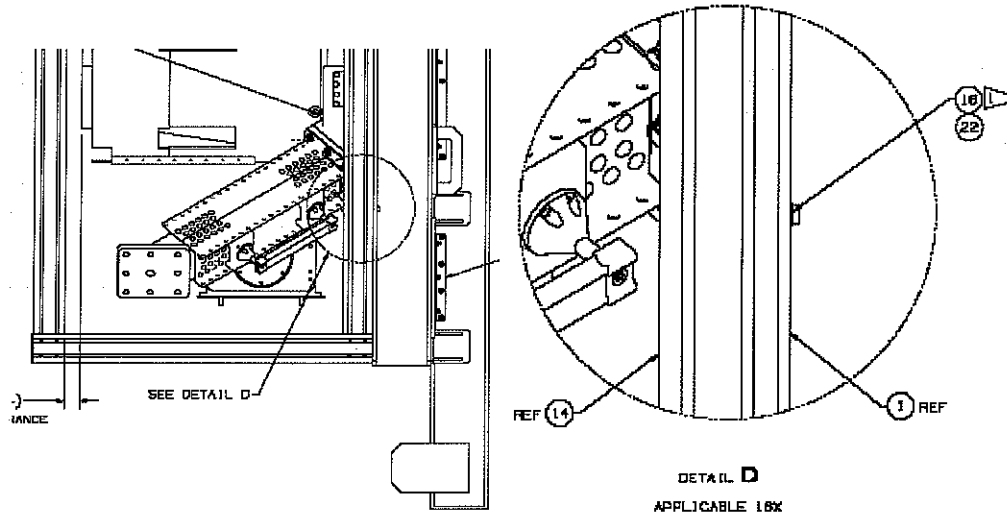

Figure 4
13. Remove shipping cover on the Lower USS Shipping Fixture (LUSS-SF) by removing sixteen (16) bolts, HTHMBSCHCM8X1 -21, item 16 and washers, NAS1149E0563R, item 22. See figure 4. Place the bolts and washers in a bag. Mark on bag the location from which the bolts and washers were removed.